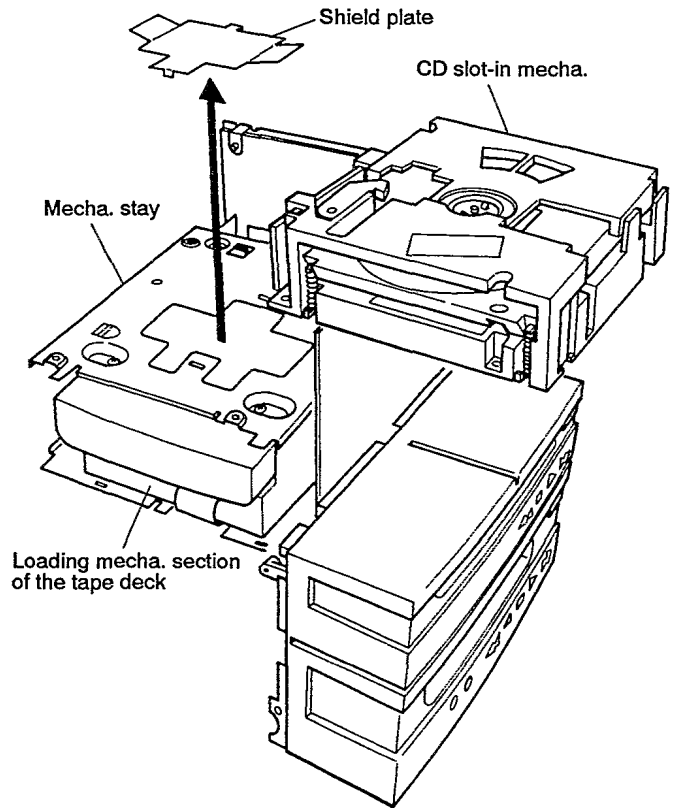

Fig. 5-3
6. Remove the CD slot-in mecha. from the mecha. stay and remove the shield plate. (See Fig. 5-3.)